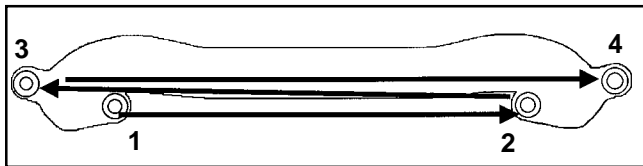

Figure 11-51. Intake Manifold Torque Sequence.
1. Install the intake manifold and new gaskets or O-Rings (plastic manifold), with wiring harness attached, to the cylinder heads. Slide any wiring harness clips onto the appropriate bolts before installing. Make sure the gaskets are in the proper orientation. Torque the four screws in two stages, first to **7.4 N·m (66 in. lb.)**, then to **9.9 N·m (88 in. lb.)**, using the sequence shown in Figure 11-51.